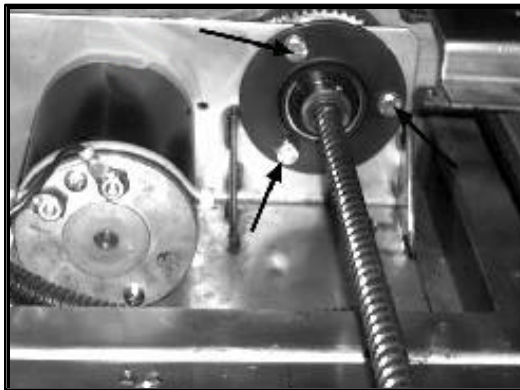

FIGURE 4-6: BALL SCREW BEARING
- c. Remove four (4) bolts fastening motor access cover to enclosure and remove cover.
- f. Refer to **Figure 4-6**. Loosen three bolts on ball screw bearing.